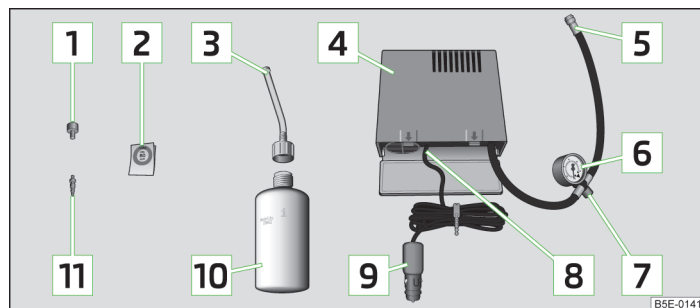

Fig. 194 Components of the breakdown kit
- Stick the sticker **2** » Fig. 194 on page 220 on the dash panel in view of the driver.
- Forcefully shake the tyre inflator bottle **10** » Fig. 194 on page 220 several times.
- Screw the tyre inflation hose **5** » Fig. 194 on page 220 of the air compressor firmly onto the tyre valve.